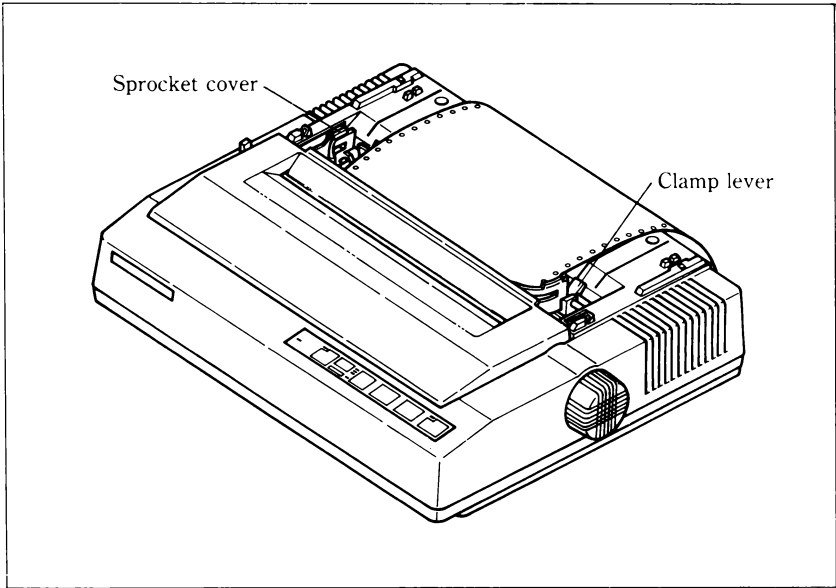

Figure 2-7. Open the sprocket covers to expose the sprocket teeth.
4. Open the sprocket covers, on the right and left sprocket units, as shown in Figure 2-7.